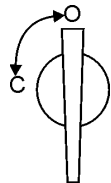

Figure 16. Fuel Cock 'ON' position
3. Check the fuel level and replenish as necessary. Turn the fuel cock lever to the 'ON' position (Figure 16) located inside the engine compartment.